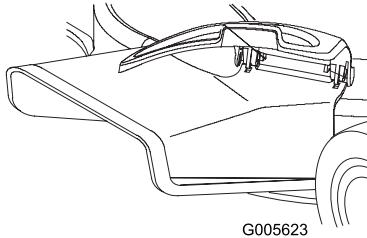

Figure 27
- Lift up on the side opening cover (Figure 27).
3. Slide the chute over the opening with the slots in the chute lined up with the tabs under the cover (Figure 27).